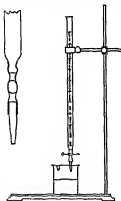

Fig. 4
*a* Fit a burette (Fig. 4) with a short piece of rubber tubing and glass nozzle (see 4). The withdrawal of liquid from the burette is regulated by a pinch clamp upon this rubber connection, or by placing a small piece of glass rod (with fine-polished edges) in the middle of the rubber tubing to choke the bore (Fig. 4).